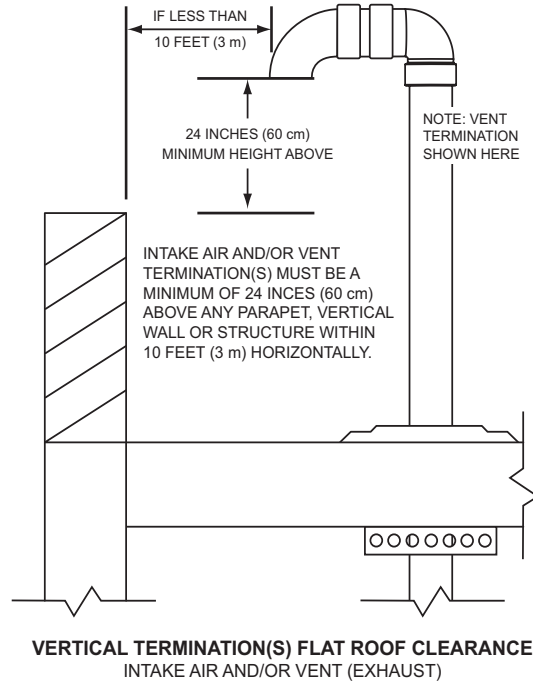

FIGURE 20.
On flat roof installations the intake air and the vent terminations must be a minimum of 24 inches (60 cm) above any parapet, vertical wall or structure within 10 feet (3 m) horizontally. See figure 20.
- Cement the Y concentric fitting to larger diameter kit pipe, see Figure 20.